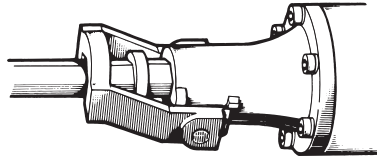

Fig. 3
- (2) Swing the retainer back into place so that it engages the tool shank and prevents tool from coming all the way out of front cover. (Fig. 3)